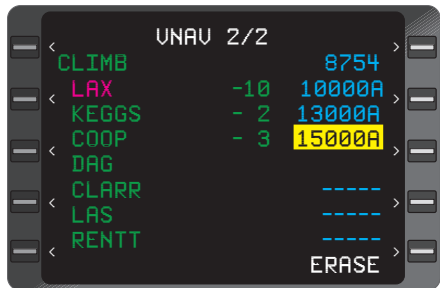

Figure 3-130
2. Line Select Key - DEPRESS to position the cursor over the desired waypoint altitude. (Figure 3-130)
NOTE: If the waypoint is part of a SID, STAR or Approach procedure, the altitude constraint prefills from database. "Cross-Between two Altitudes" type constraints, as shown in Figure 3-130, cannot be programmed manually.